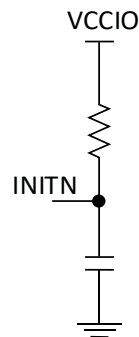

Figure 5.1. RC Delay
- RC delay to INITN as shown in Figure 5.1.